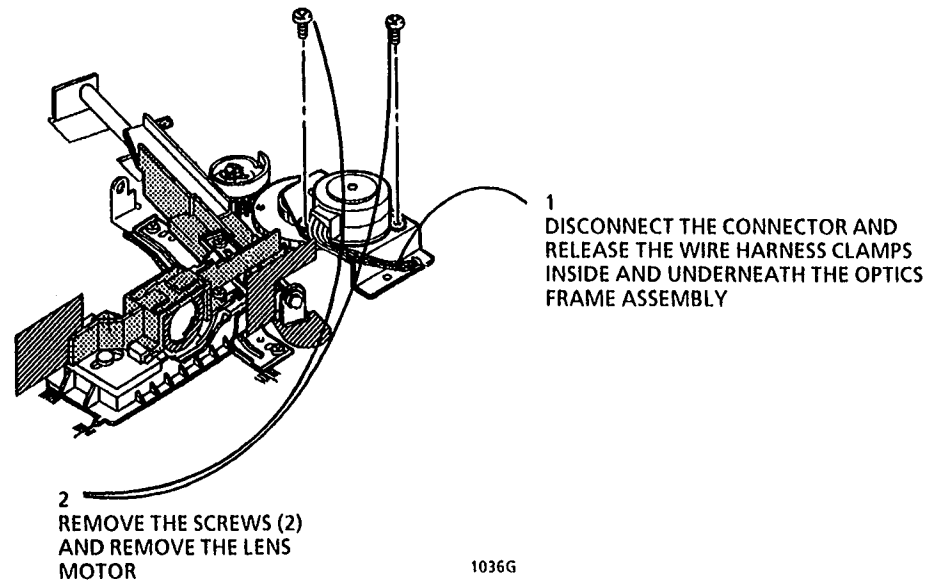

Figure 1. Removing the Lens Motor (MOT2)
5. (Figure 1): Remove the Lens Motor.